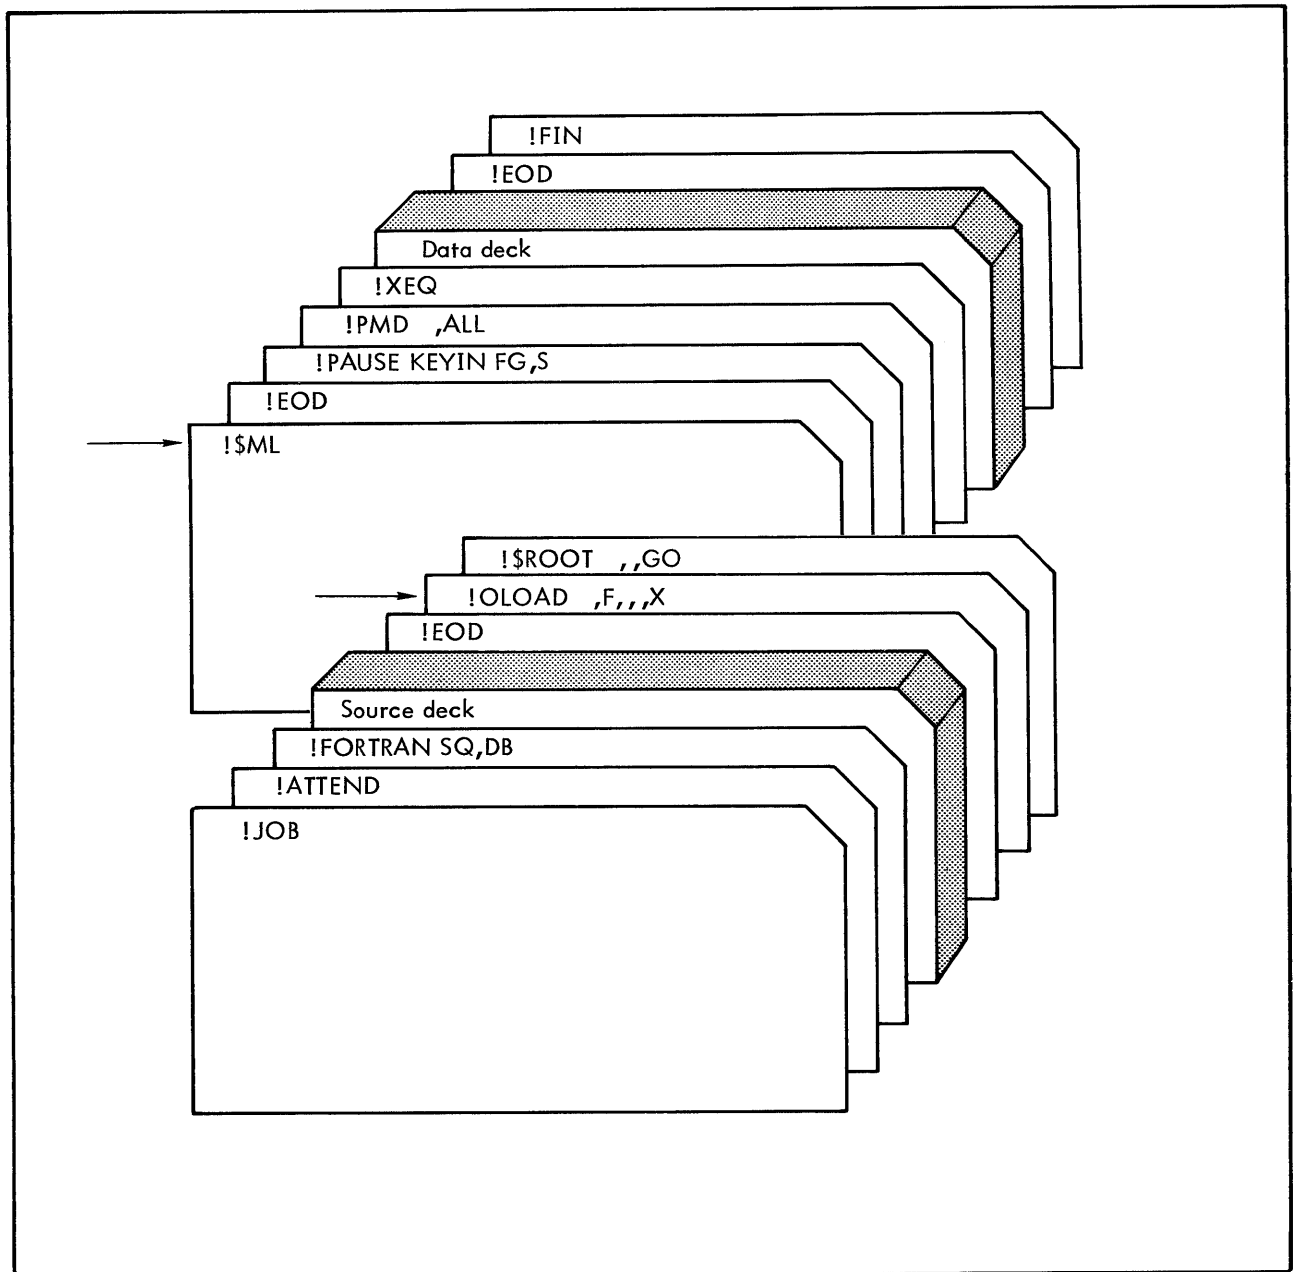

Figure 8. Compile, Load, and Execute in Foreground Area
An example of loading a FORTRAN job from the background job stream that is to be executed in the nonresident foreground area of memory is illustrated in Figure 8. The deck structure for such jobs is identical to other load-and-go jobs except that the operator must key-in FG,S to access foreground memory, and the foreground option (F) must be specified on the !OLOAD card (the default option is B for background).